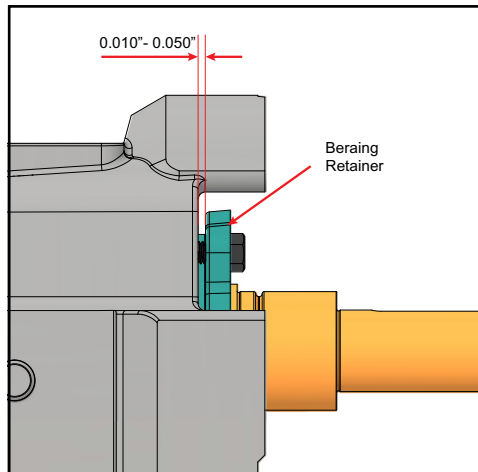

Figure 54 - Bearing Retainer Clearance
5. The bearing retainer must rest firmly against the bearing. Leave a .010 to .050 in (.25 to 1.25 mm) clearance between the back of the bearing retainer and the front of the gear case (Figure 54). If this clearance is not met, place shims between the bearing and retainer.